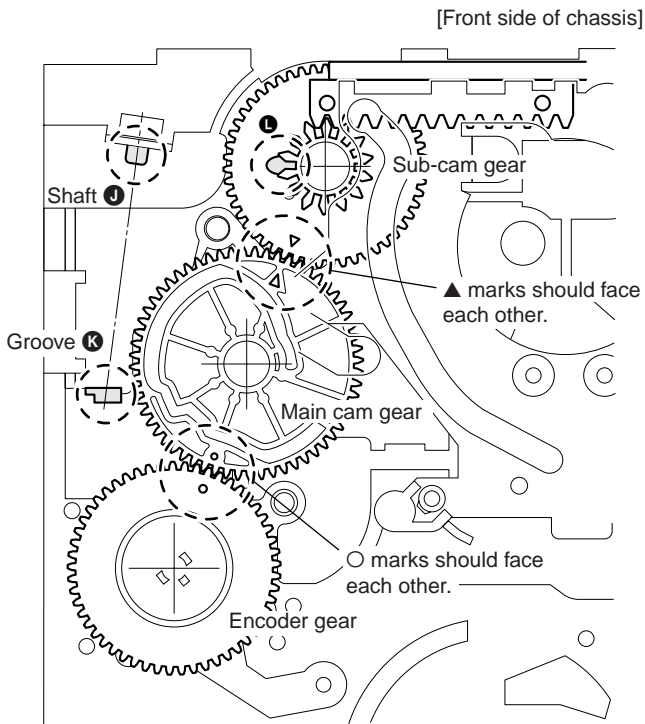

Fig. 8
④ Apply grease to the fixing block (shaft **J** and U-shaped groove **K**) of the coupling gear and portion **L** of the sub-cam gear (half size of one grain of rice for each part). (Fig. 8)
⑥ Attach the main cam gear while being careful of the directions of the front and rear sides. Also, take care of the phase adjustment to the sub-cam gear. (Fig. 8, 11, 12)
Adjust the phases (marked) to those of the main cam gear. (Fig. 4/Fig. 8)